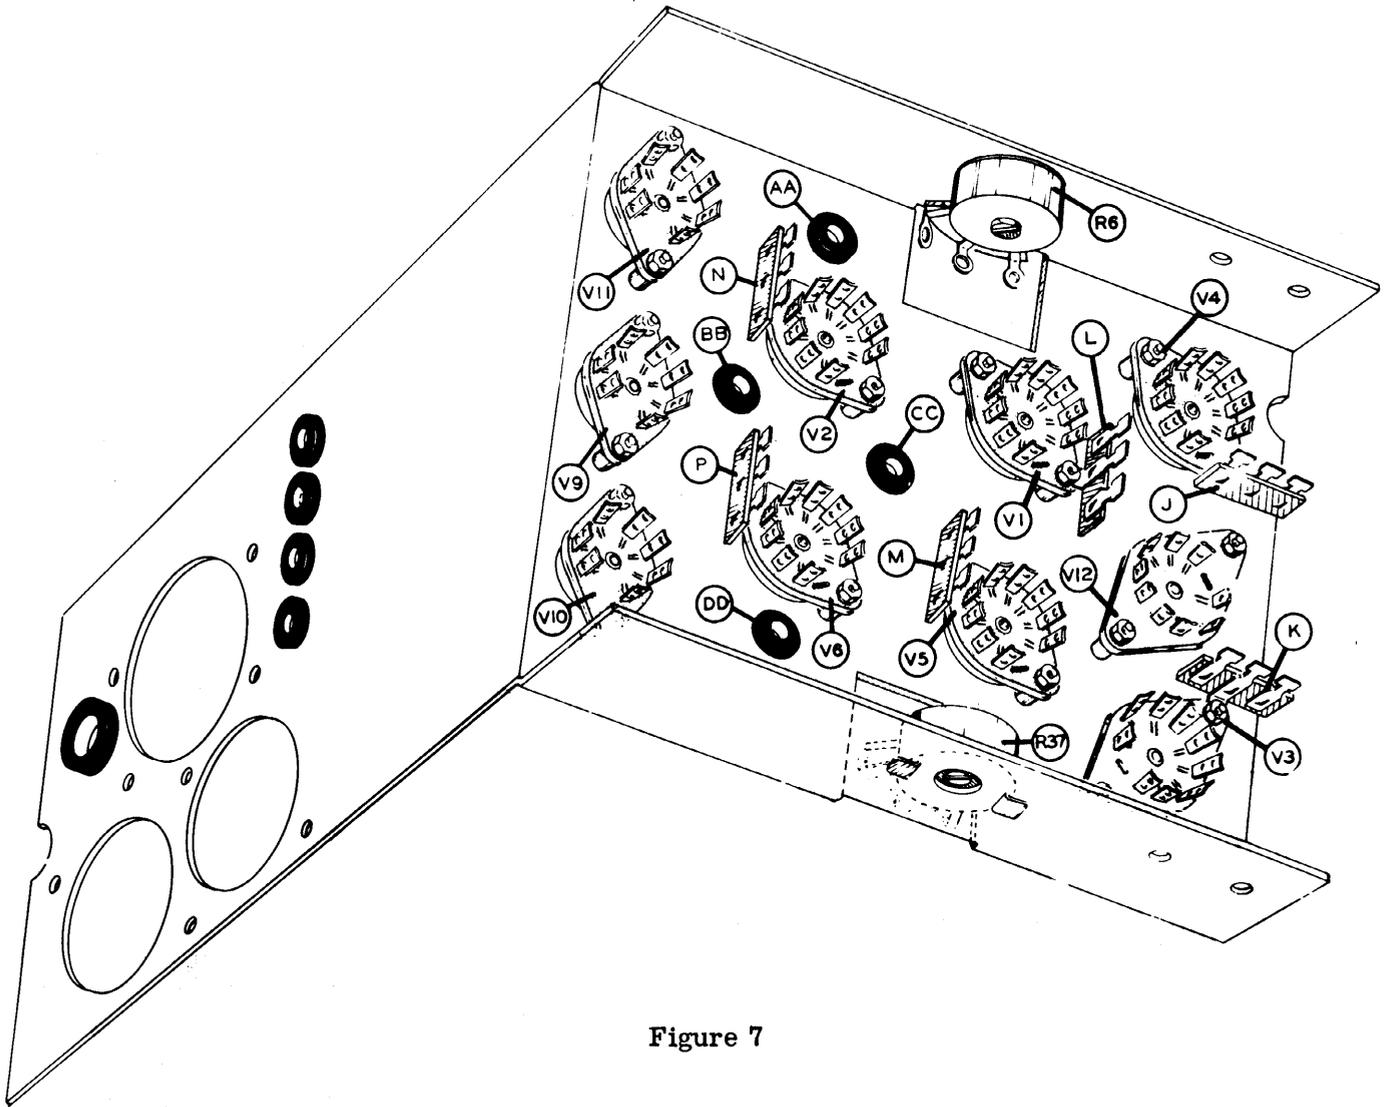

Figure 7
Refer to Figure 7 for the following steps.
- () Locate the chassis, orient as shown, and install the four 5/16" rubber grommets AA, BB, CC and DD. See Figure 7.
NOTE: Be sure that the blank spaces in all tube sockets face in the directions shown in Figure 7.
- () Cut off the end of each lug of a 9-pin tube socket as shown in Detail 7B. Now mount this socket, V12, as shown in Figure 7.